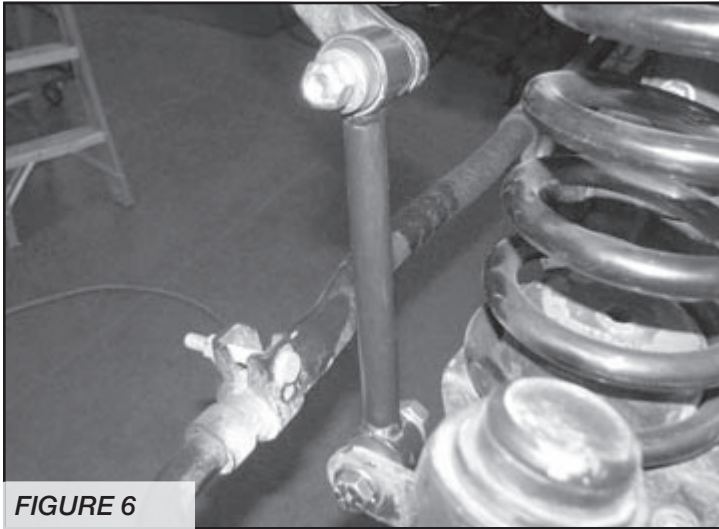

FIGURE 6
8. Locate FT50261BK Front Sway Bar End links, FT50048 & FT50089 bushing and sleeve kits. Press one bushing and one sleeve from the supplied bushing kit into each end of the end link. With the factory hardware, connect the new end link to the sway bar, then using the supplied $\frac{1}{2}$ " x $2\text{-}\frac{3}{4}$ " bolt, nut and washers, connect to the lower sway bar mount. Torque the upper hardware to 40 ft-lbs. and the lower hardware to 75 ft-lbs. SEE FIGURE 6